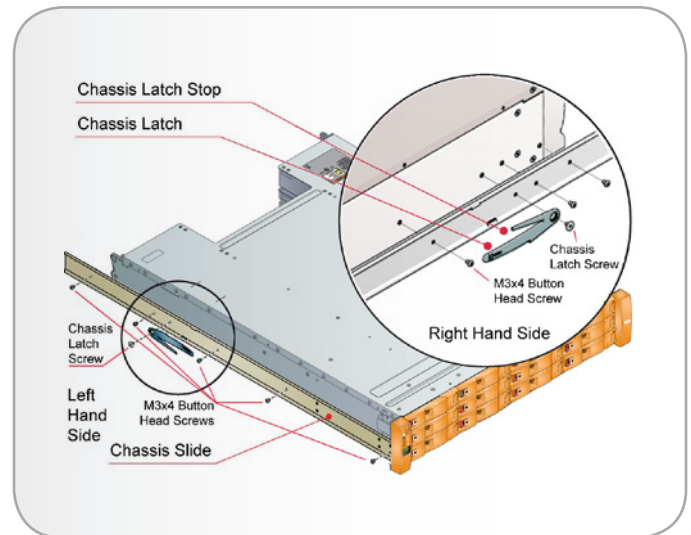

Fig. 27 - Securing Chassis Slides to Enclosure
1. With the empty enclosure chassis on a stable work surface, attach the left and right chassis slides to the enclosure sides using a total of 10 M3 x 4 button head screws (see Fig. 27), five each side.
Ensure that the latch is orientated as shown in Fig. 27, with the spring arm located against its stop. On the right hand this is at the top, on the left it is at the bottom.